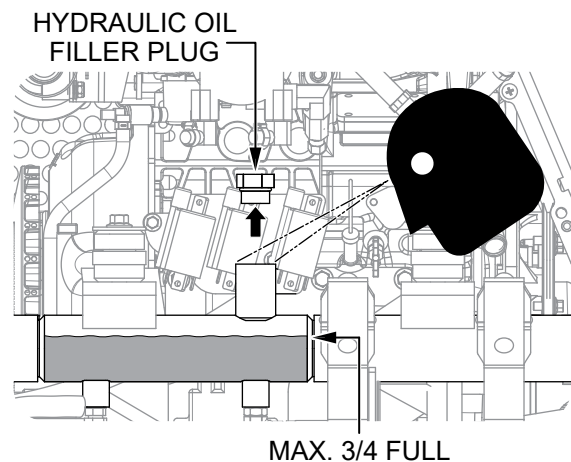

Figure 13. Hydraulic Oil Reservoir
1. Remove the hydraulic oil filler plug and visually inspect the hydraulic oil level inside the hydraulic oil reservoir as shown in Figure 13. **DO NOT** remove the plug while the oil is hot or spillage will occur.